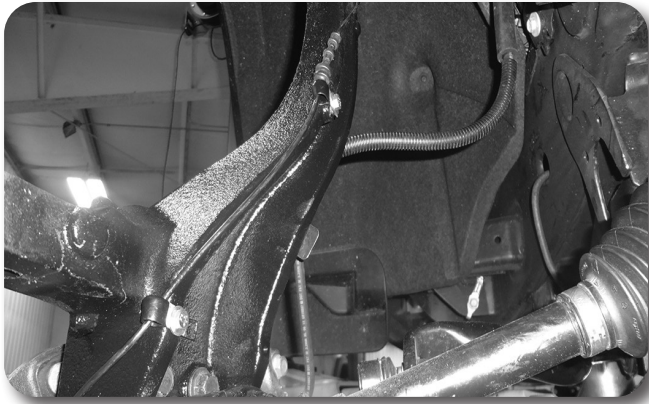
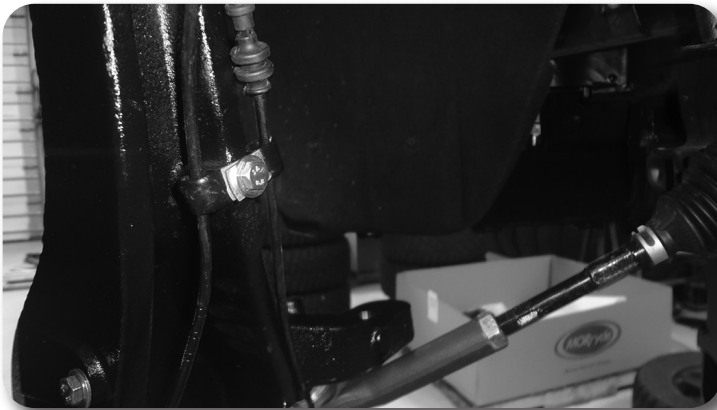

Figure 42
Figure 43
66. Attach the ABS wire to the knuckle with the provided wire clamps and 6mm bolts, washers, and thread locker as shown in Figures 42 & 43. Figure 43 shows the driver side with the brake sensor wire routing along the knuckle as well. Torque hardware to 92 in-lbs.